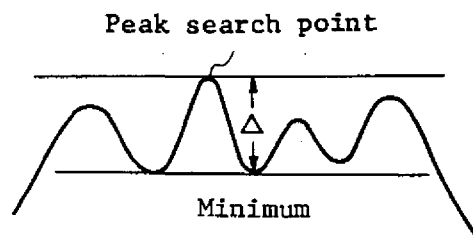

Fig. 5-2 Ripple level
- ⑥ Attenuation measurement
- ⑥-1 If the vertical scale was expanded through the above measurement, to 1 dB/div. for example, return it to 10 dB/div. Press 7 (returns to 10 dB/div.)
- ⑥-2 If the insertion loss of the DUT is too great, the measuring dynamic range is reduced accordingly. To maintain the dynamic range, use a preamplifier at the input of the analyzer. (See Figure 5-2.) Whether the preamplifier is to be inserted in the input or output of the DUT will depend on the condition of the DUT itself.